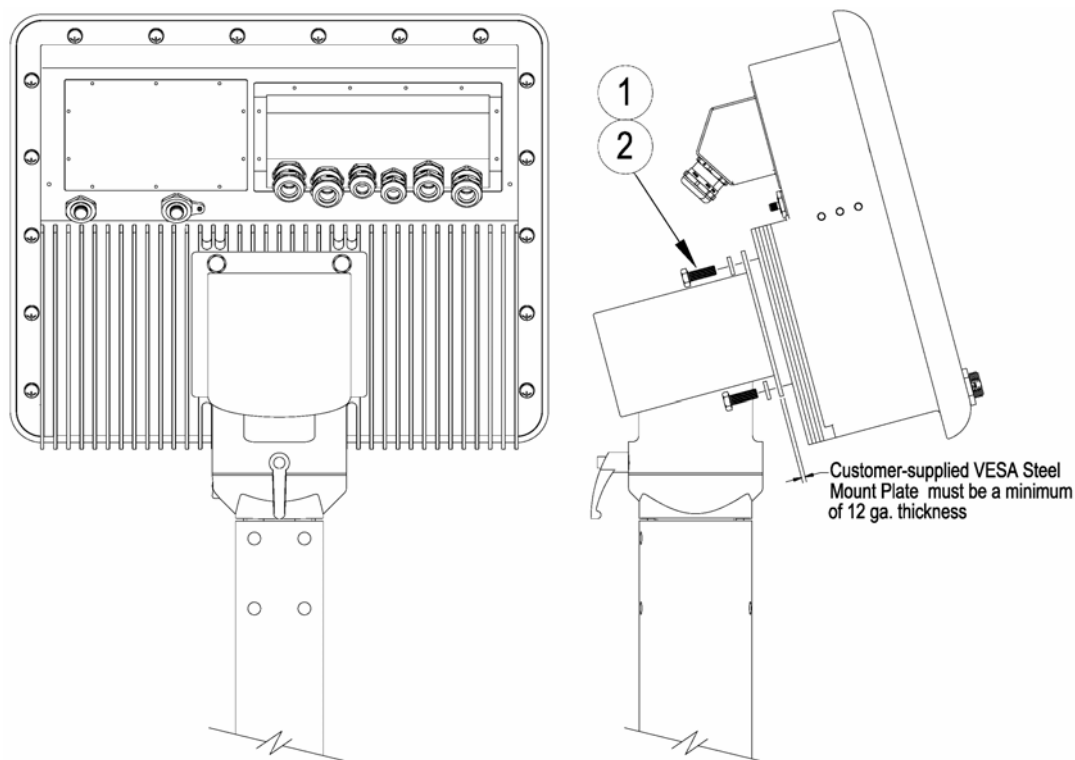

Figure 4.11 VESA Mount
- **VESA Mount:** Mounting points according to the VESA Mounting Interface Standard are located on the rear of the unit. Refer to 4.2.2.2, Figure 4.11. Use M5 x 12 mm screws to mount the VisuNet XT.
On the back side of the XT unit is a 100 mm VESA mount for attachment to pedestals, wall arms, ceiling arms, or wall mount brackets. Use M5 x 12 mm long hex head screws (item 1) and lockwashers (item 2) for VESA mounting. Refer to Figure 4.11.